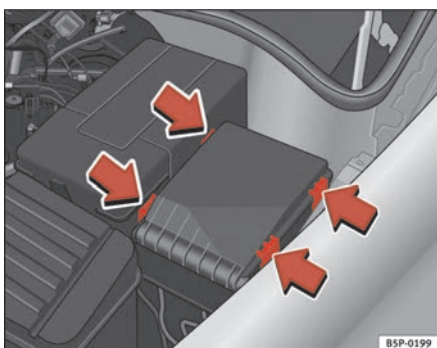

Fig. 178 Fuse box cover in engine compartment
- Prise off the fuse cover in the engine compartment by pressing the tabs towards the centre of the cover ⇒ fig. 178.